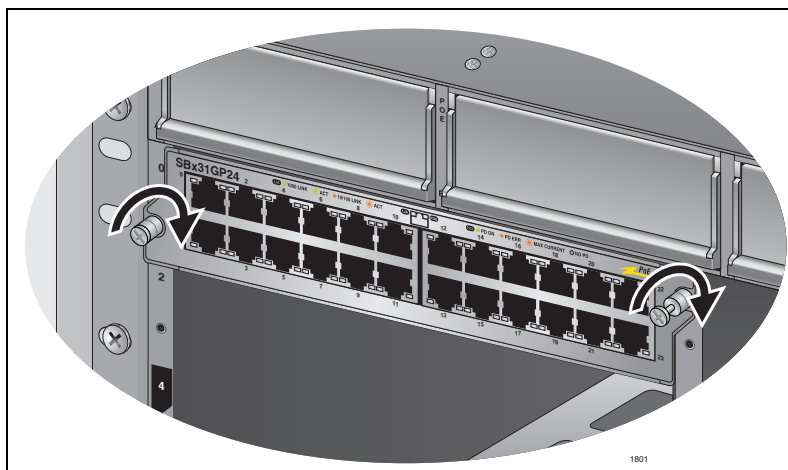

Figure 48. Tightening Thumb Screws on the AT-SBx31GP24 Line Card
5. Finger tighten the two thumbscrews on each side of the line card as displayed in Figure 48 to attach it to the front mounting rails of the chassis.